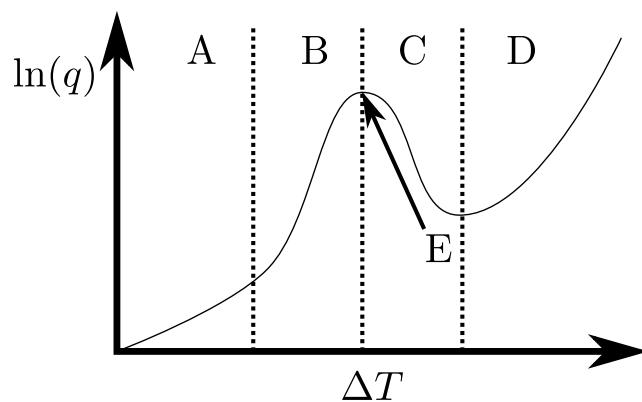

Figure 26: A typical boiling heat flux versus driving temperature difference curve.
- 11) Which region of the boiling curve in Fig. 26 is the nucleate boiling regime? [2 marks]
- 12) Which region of the boiling curve in Fig. 26 is the radiative boiling regime? [2 marks]
- 13) Which region of the boiling curve in Fig. 26 is the operation of the boiler unstable? [2 marks]